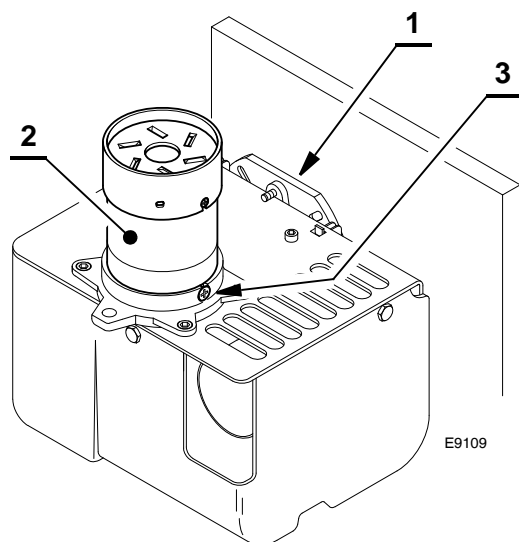

Fig. 21
- Hook the burner to the flange (1) (Fig. 21), by removing the blast tube (2) after loosening the fixing screws (3).